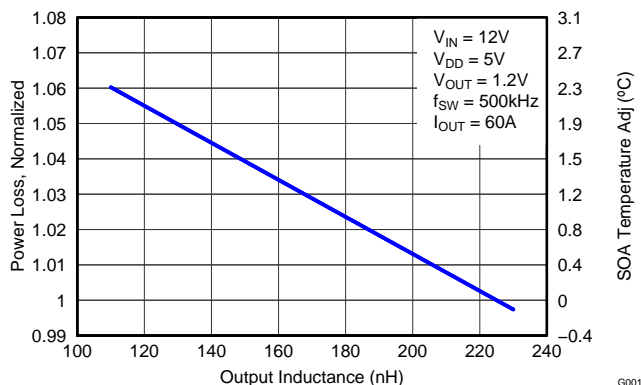

Figure 10. Normalized Power Loss vs Output Inductance
- Normalized Power Loss for output inductor ≈ 1.01 (Figure 10)
- SOA adjustment for output inductor $\approx 0.5^{\circ}\text{C}$ (Figure 10)